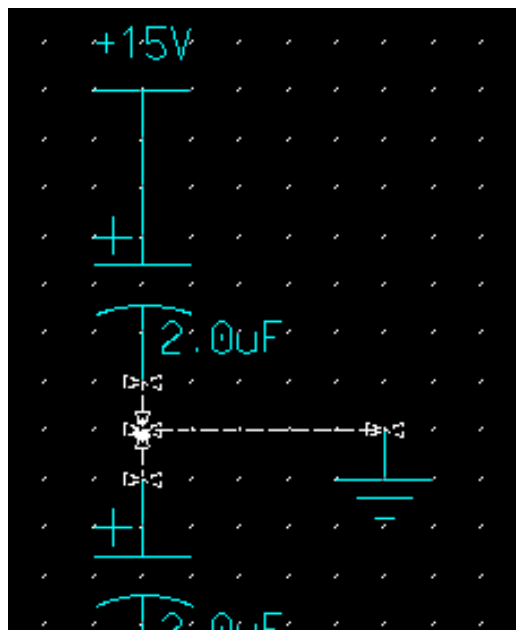

Figure 2-31. Adding Wires
The first net connections you add are between the first two capacitors you placed, and from the capacitors to the ground symbol to their right, as shown in Figure 2-31.
4. Click on the center of the wire just added, then double-click on the ground pin, as shown in Figure 2-31.